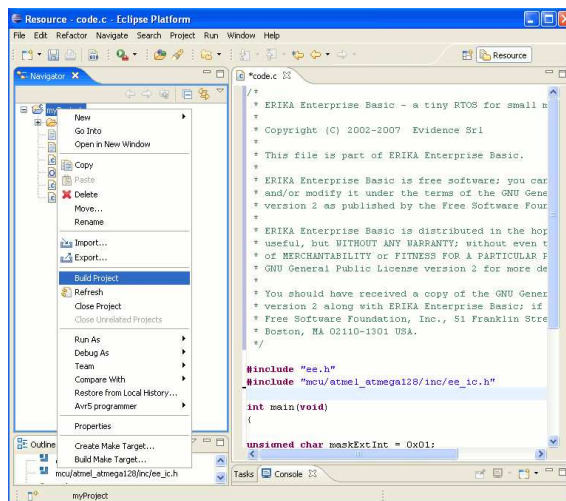

Figure 4.4: We are now able to build the project.
5. We are now ready to build the demo. Right click on the project name in the Eclipse navigation bar, and choose “Build Project”¹ (see Figure 4.4).